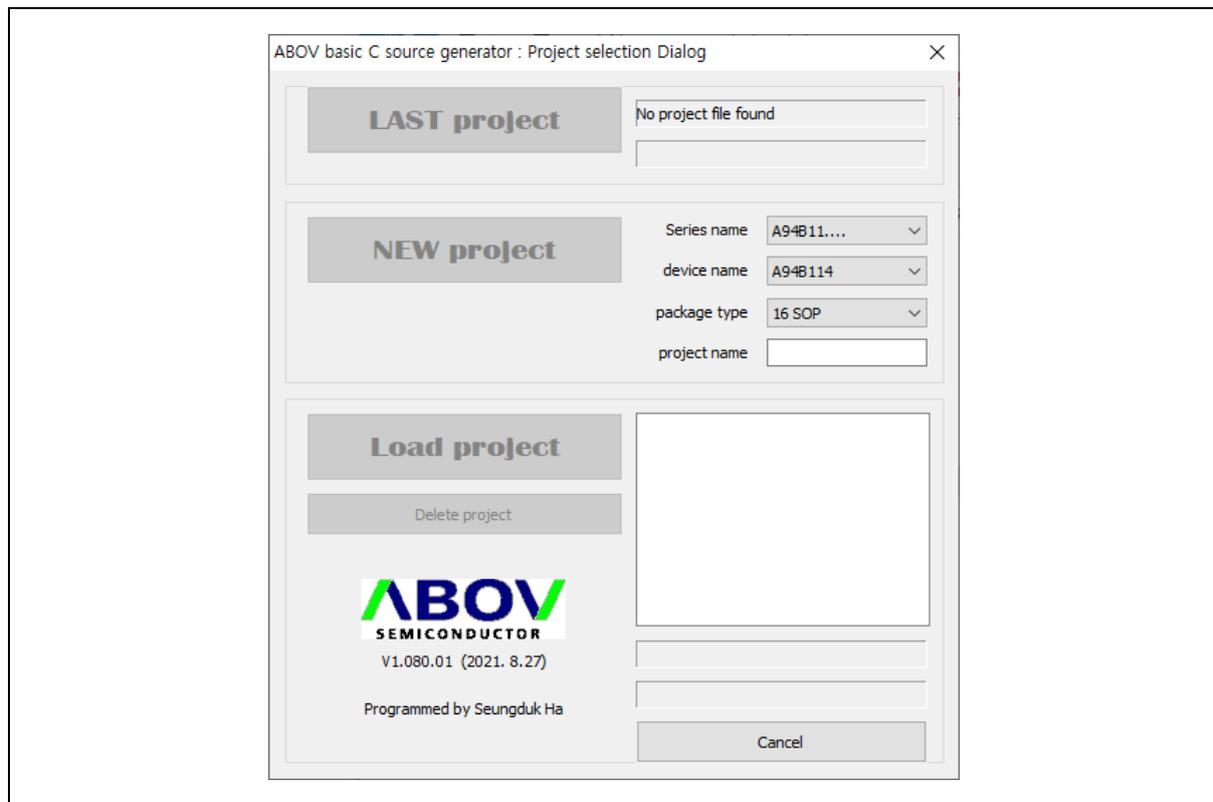

Figure 2 Project Selection Dialog Box
When starting the program, users can see a dialog box as shown in Figure 2.
- **New or Load Project:** It closes the project that the user is currently working on, and then starts new project or loads a project that was saved previously. The project selection dialog box (shown in Figure 2) is displayed again to allow the user to create a new project or load an existing project.